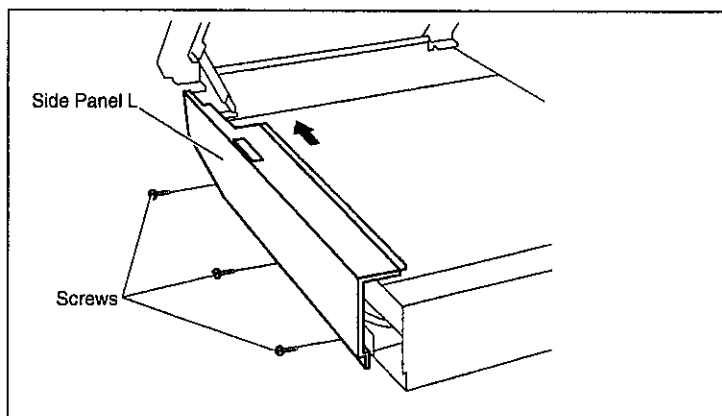

Fig. 8-2
- 3) Slide Side Panel L toward the back, as shown in Fig 8-2.